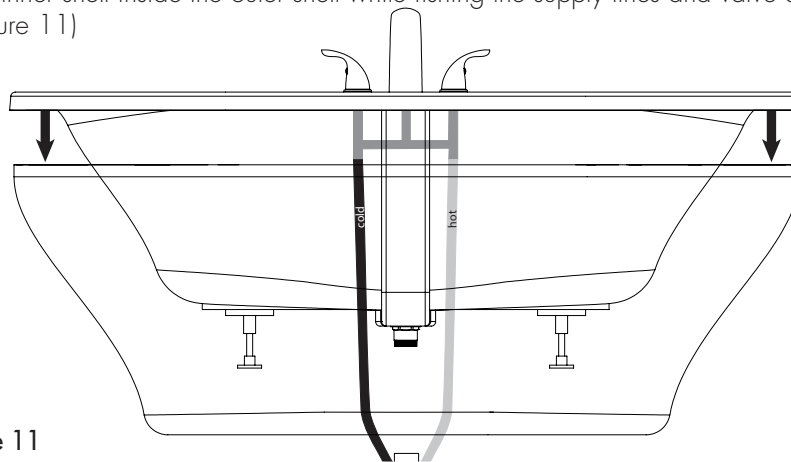

Figure 11
10. Carefully drop the inner shell inside the outer shell while fishing the supply lines and valve assembly into their proper location. (See Figure 11)